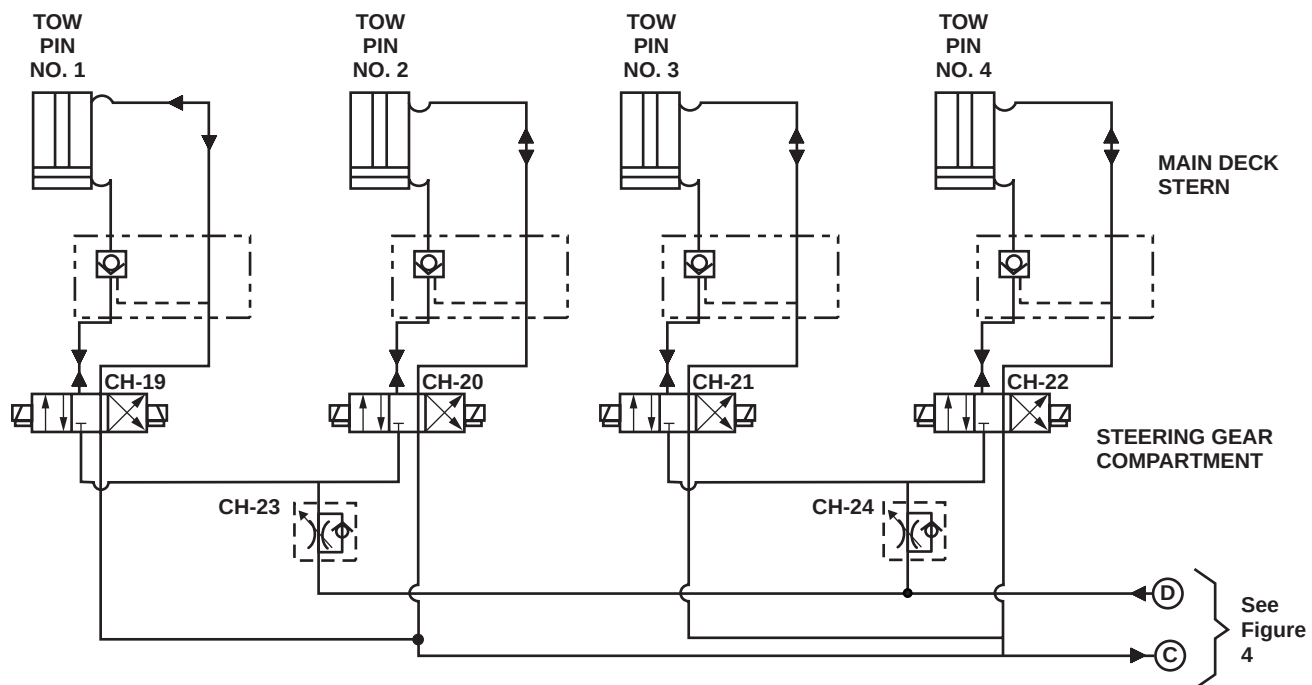
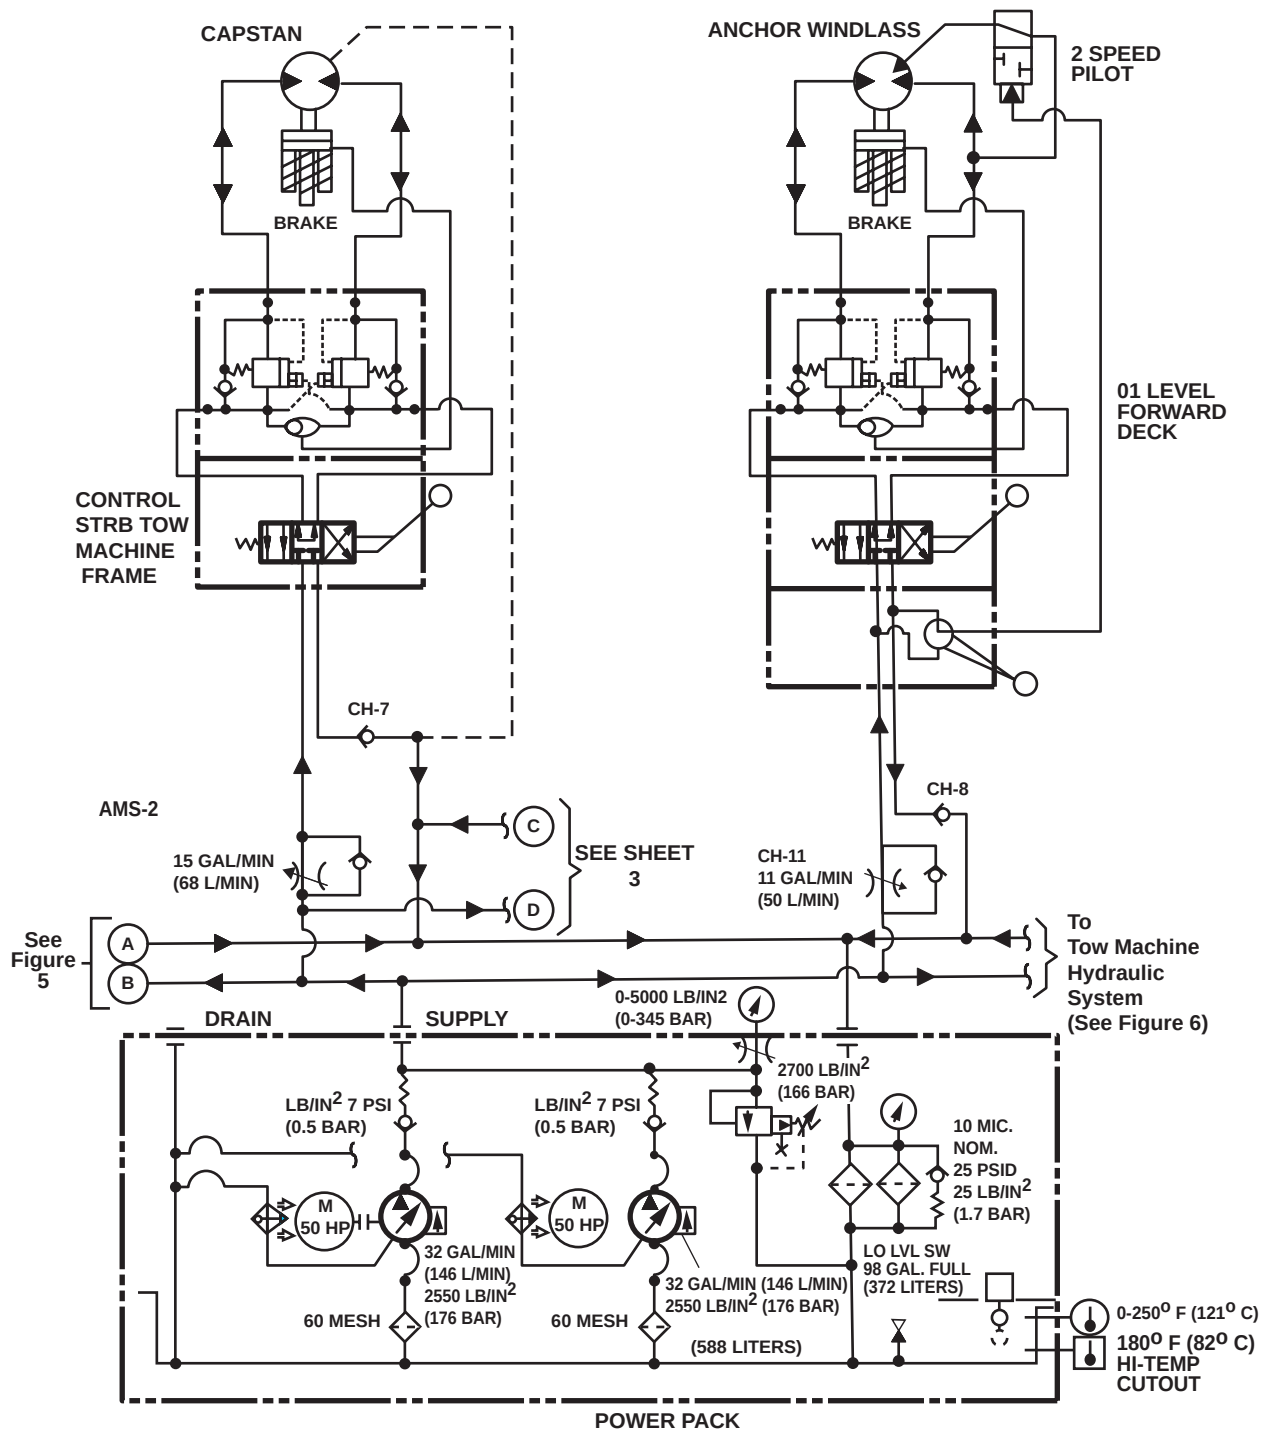
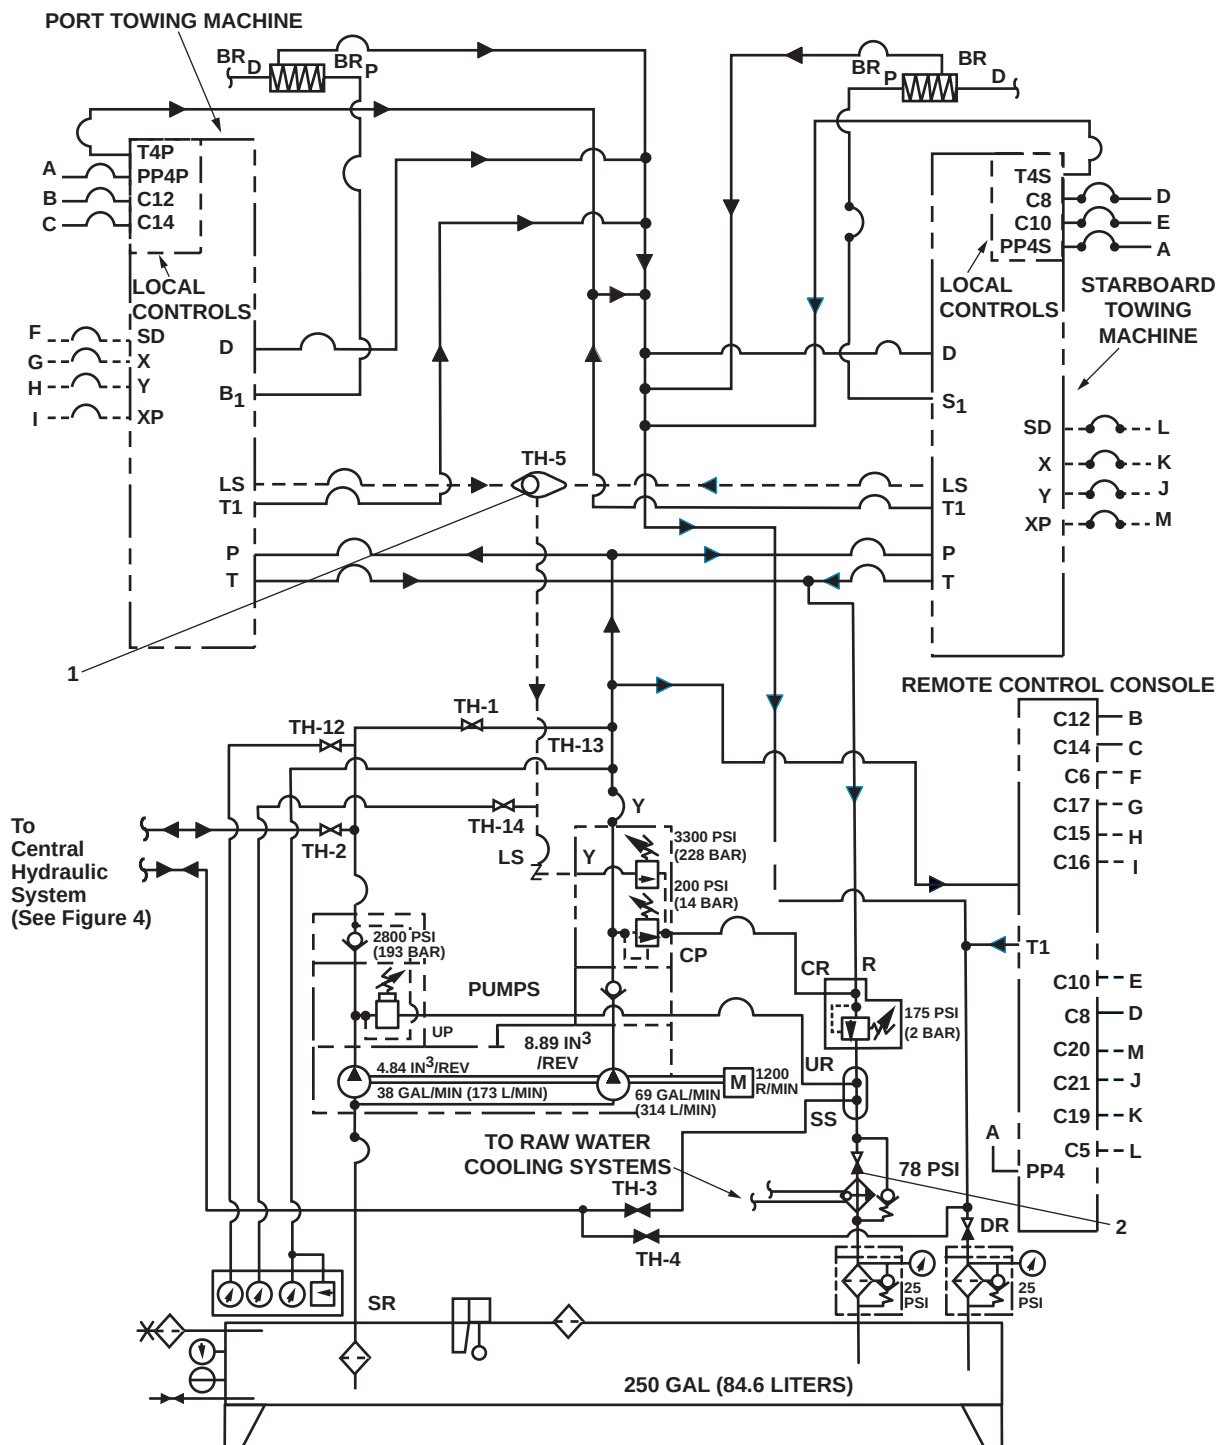

Figure 3. Central Hydraulic System (Main Deck)
Figure 4. Central Hydraulic System (Power Pack)
Figure 6. Towing Machine Hydraulic System
The central hydraulic system (figures 3, 4, 5) provides hydraulic power for the crane, the capstan, tow pins, and anchor windlass. It may also be aligned to provide hydraulic power to both towing machines. A crossover allows the towing machine hydraulic system (figure 6) to power the central hydraulic system (figure 3) in the event of failure of the central hydraulic system (figure 4) or power pack (figure 6). The central hydraulic system (figure 3, 4, and 5) is comprised of a hydraulic fluid reservoir, two pump units, filter, and control panel. Refer to WP 0040 00 for further details.
The towing machine hydraulic system (figure 6) provides hydraulic power for the port and starboard towing machines. It may also be aligned to provide hydraulic power the central hydraulic system (figures 3, 4, and 5). The hydraulic towing machine system consists of: a diesel engine (pump drive engine), a pump unit, a reservoir, and a hydraulic oil cooler.
The pump drive engine, located in AMS 1 (starboard side), powers a dual pump, open-loop hydraulic system. The maximum hydraulic flow is proportional to the pump drive engine's speed. The hydraulic fluid flow is controlled by a proportional directional control valve (figure 6, item 1) mounted on the towing machine drive motor. The pilot signal to the directional control valve is from the remote control lever located on the operator's console. A crossover allows this hydraulic system (figure 6) to power the central hydraulic system (figures 3, 4, and 5) in the event of failure of the central hydraulic system (figure 4).
The hydraulic oil cooler (figure 6, item 2) (located at the reservoir) uses raw water to cool hydraulic fluid that was heated while operating the towing machine.